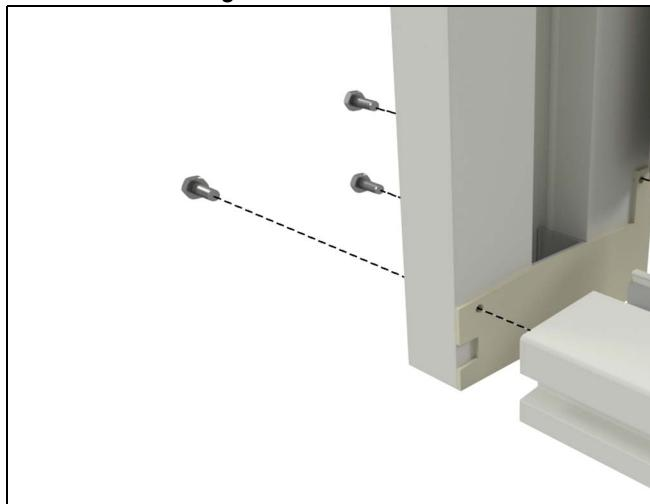

Figure 3
- Assemble left hand jamb to Track Bottom using three #12 x 1 ½ Tek Hex head screws. See Figure 3.
- Assemble right hand jamb to Track Bottom using three #12 x 1 ½ TEK Hex Head screws. See Figure 3.